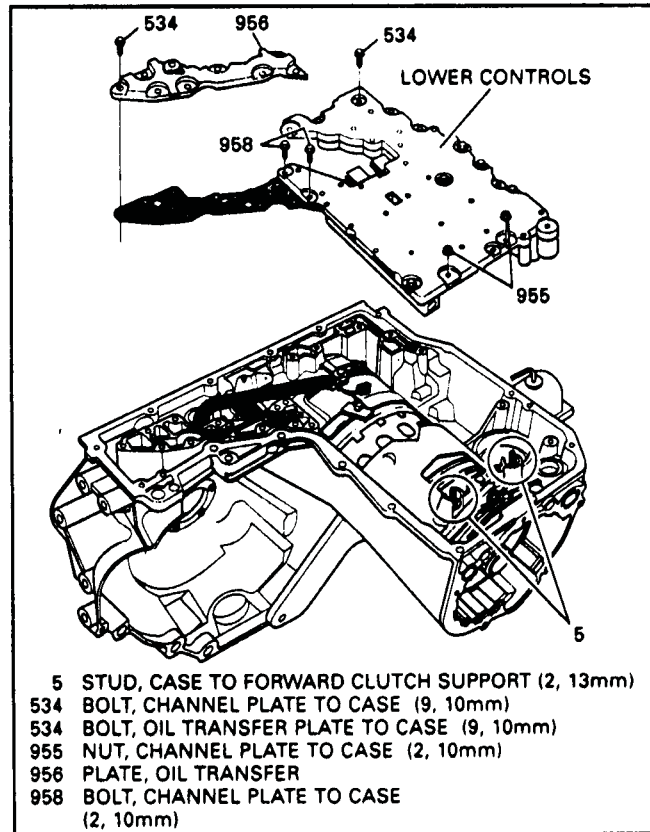

Figure 118
1. Rotate the transaxle in fixture so that bottom pan area is facing up, as shown in Figure 118.
3. Place the pre-assembled lower valve body assembly over the forward support studs as shown in Figure 118.
8. Place oil transfer plate (956) over open gasket area (See Figure 118).